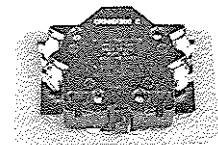

Figure 4.
4. Assemble the auxiliary contact block to the holding interlock block by aligning the nuts on the auxiliary contact block with the cavities in the holding interlock block. Also, align the contact plungers in the two blocks (Figure 4).
lock block. Also, align the contact plungers in the two blocks (Figure 4).